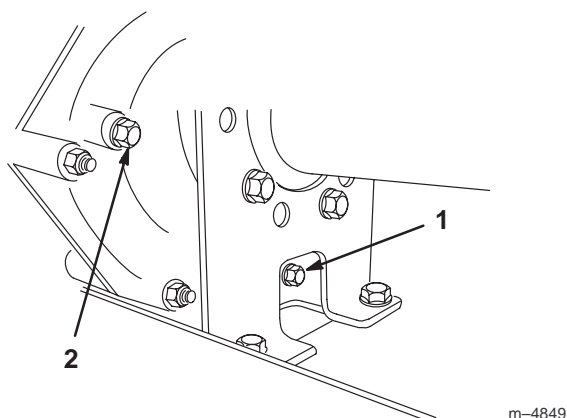
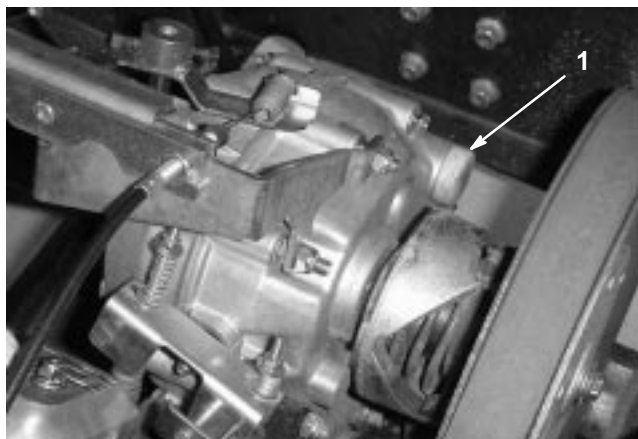

Figure 31
Figure 32
2. Remove the drain plug from the right side of the reservoir (Fig. 31) and let the fluid flow into a drain pan. Install and tighten the plug when the fluid stops draining.
3. Fill the reservoir (Fig. 32) with approximately 1-1/2 qt. (1.4 liters) of SAE 10W30 motor oil or until the oil level is at the bottom of the level indicator hole (Fig. 31).